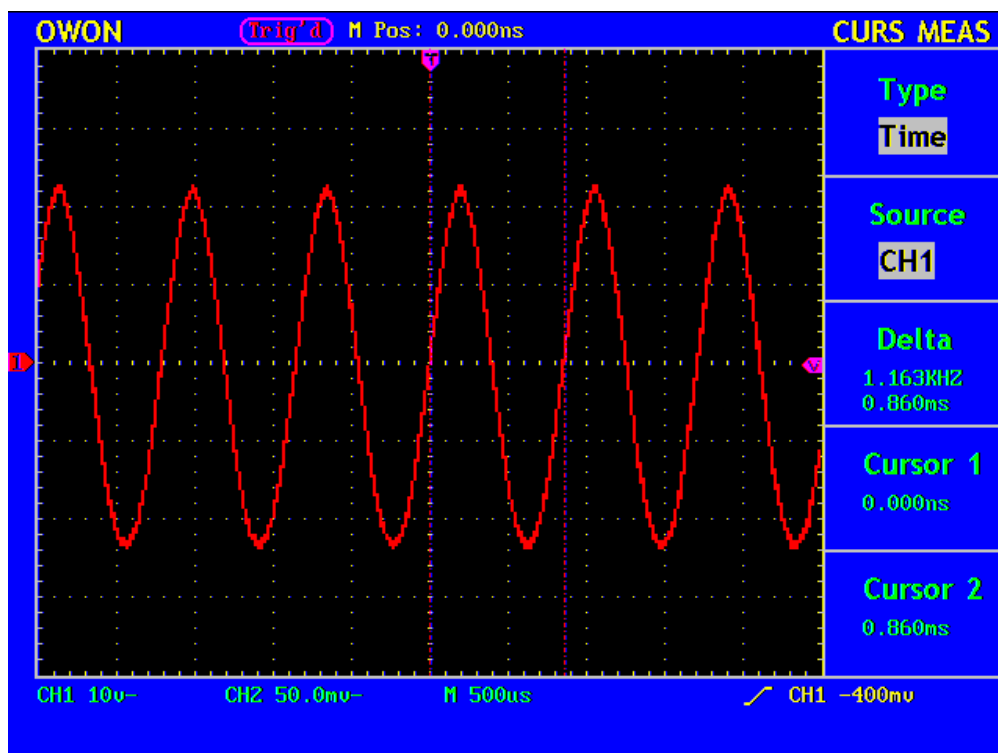

**Fig.60** Wave Form of Voltage Cursor Measurement
4. Adjust the positions of **CURSOR1** and **CURSOR2** according to the measured wave form, with the absolute value of the voltage amplitude difference between Cursor 1 and Cursor 2 displayed in the increment window. The current position of Cursor1 is displayed in the Cursor1 window and that of Cursor2 is displayed in the Cursor2 window (see Fig.60).